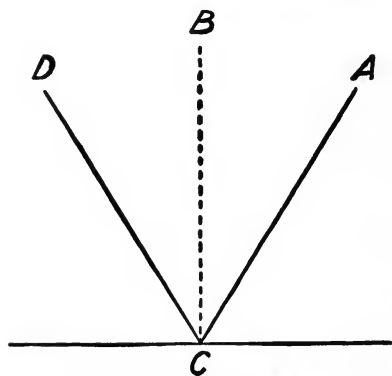

FIG. 113. — The ray AC is reflected as CD .
ray also makes an angle of 32° with the perpendicular. The ray (AC , Fig. 113) which falls upon the mirror is called the incident ray, and the angle which the incident ray (AC) makes with the perpendicular (BC) to the mirror, at the point where the ray strikes the mirror, is called the angle of incidence. The angle formed by the reflected ray (CD) and this same perpendicular is called the angle of reflection. Observation and experiment have taught us